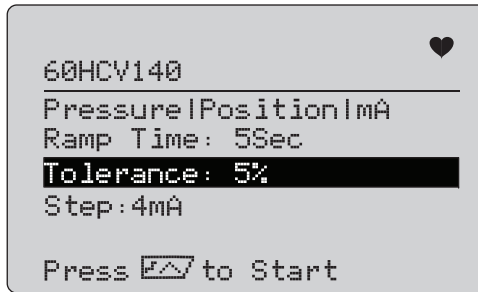

Figure 52. Signature Test Setup
1. Go to **Signature Test Menu**. See Figure 52.